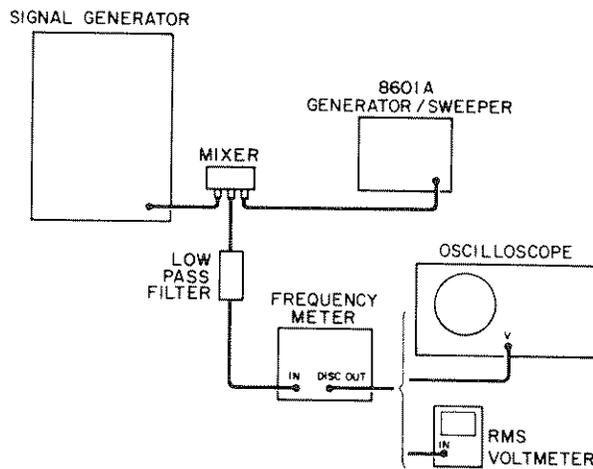

Figure 4-6. Residual and Incidental FM Test Setup
1. Connect equipment as shown in Figure 4-6.